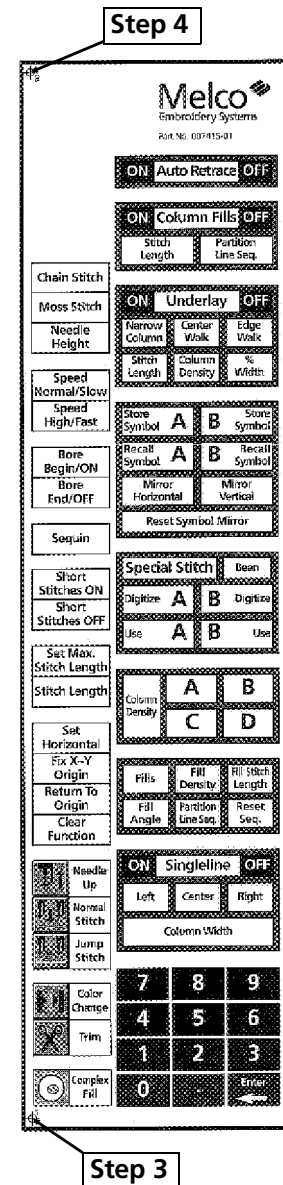

Figure 3-8
3. Position the tablet digitizer cursor crosshairs on the target labeled #1 at the lower left corner of the menu (see Figure 3-8) and press the Mk1 button. You should hear the tablet "beep" when the button is pressed.
4. Next, move the tablet digitizer cursor crosshairs to the #2 target at the upper left corner of the menu (see Figure 3-8) and again enter a Mk1.
1. Position the tablet digitizer cursor crosshairs on the [Set Horizontal] box in the movable menu on the tablet digitizer (see Figure 3-8) and enter a Mk1.